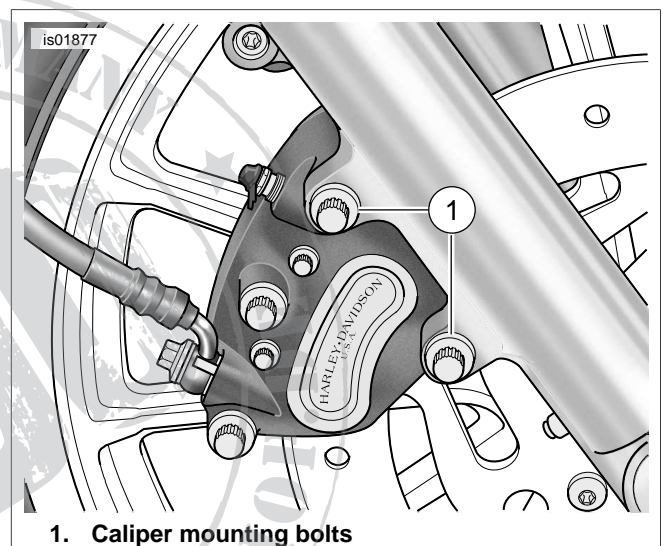

Figure 1. Caliper Mounting Bolts (Right Side)
3. See Figure 1. Remove both the upper and lower mounting bolts from lugs of front fork leg to release brake caliper assembly.